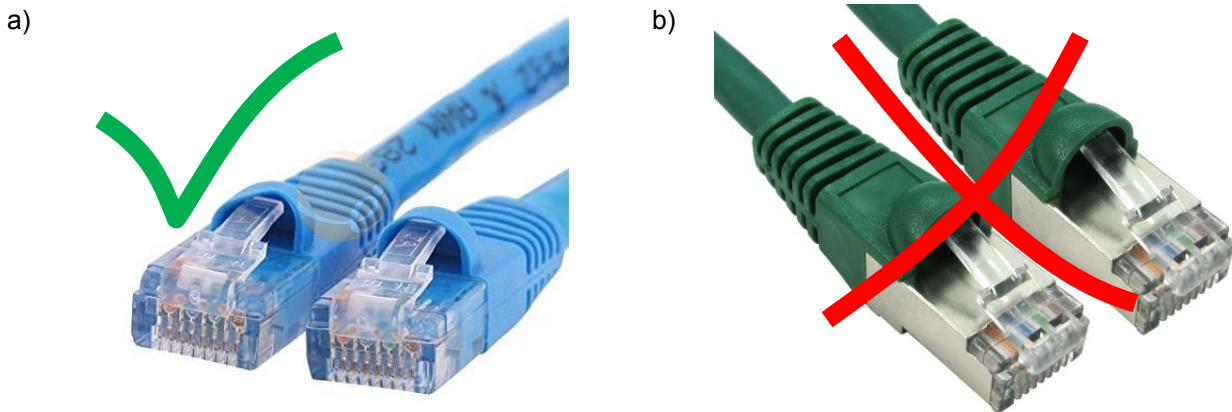

Figure 1.4 Network cable types, a) UTP cable (unshielded) and b) STP cable (shielded)
**IMPORTANT NOTE:** Ethernet module integrated on ETH-MC(-BOX) motion controller provides galvanic isolation between computer and motion controller. Usage of shielded network cable (STP cable) is NOT recommended (Figure 1.4) because in that case galvanic isolation is lost, which in some cases can lead to damage of ETH-MC(-BOX) motion controller and/or computer.